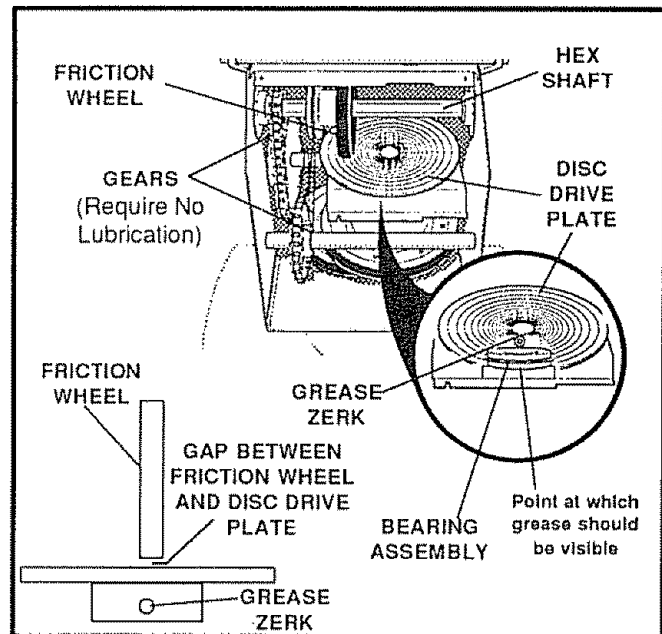

FIG.17
- Disc Drive Plate - Using a hand grease gun, lubricate with a Hi Temp EP Moley grease, zerk located beneath the disc drive plate (see Fig. 17 inset) every 25 hours and at the end of the season and/or before storage. To grease zerk, turn disc drive plate clockwise by hand until zerk is clearly visible at front center. DO NOT over fill or allow grease to come in contact with the disc drive plate or friction wheel or damage will result. Fill zerk only until grease becomes visible below bearing assembly located under grease zerk. See Lubrication Chart on page 25
- Hex Shaft and Gears - Hex shaft and gears require no lubrication. All bearings and bushings are lifetime lubricated and require no maintenance (See Fig 17)
NOTE: For storage, the hex shaft and gears should be wiped with 5W-30 motor oil to prevent rusting (See Fig 17)